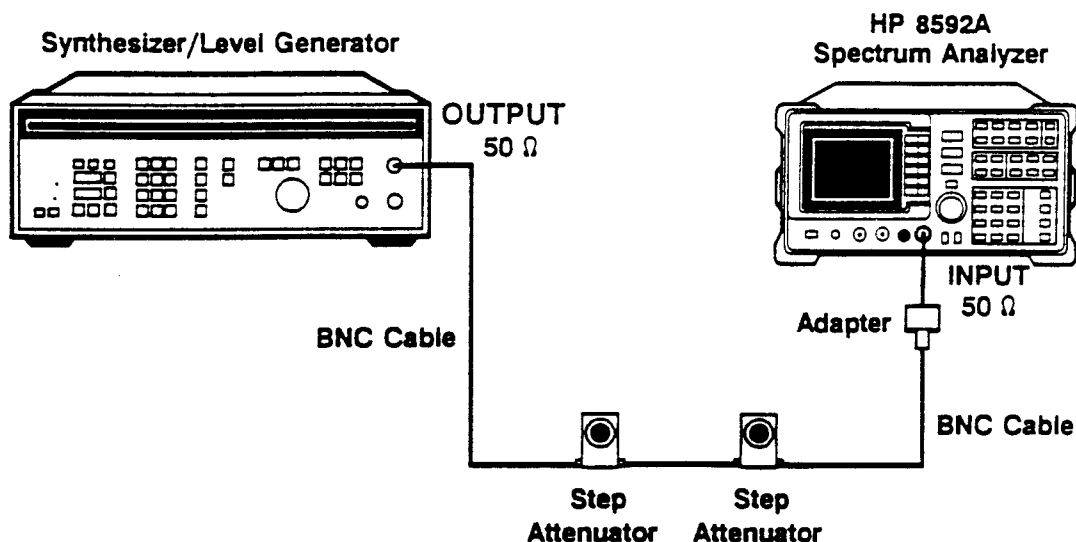

Figure 1-8. Reference Level Accuracy Test Setup
- Connect the equipment as shown in Figure 1-8. Set the HP 355D to 10 dB attenuation and the HP 355C to 0 dB attenuation.